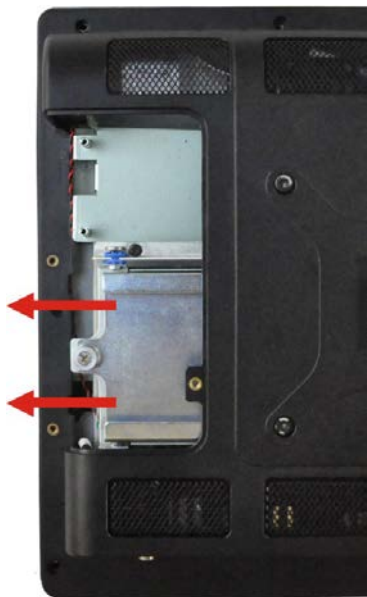

Figure 4-3: Removing the HDD Bracket
Step 4: Slide the HDD bracket out of the device as shown in **Figure 4-3**.